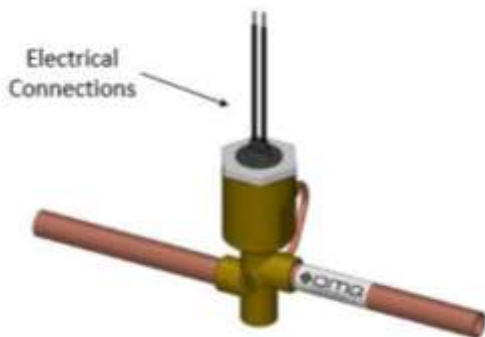

Figure 21 - MSEV electrical connections
- Connect the PWM output wires (two 18 AWG white wires) to the MSEV electrical connections, shown below in Figure 21. These wires are non-polar.